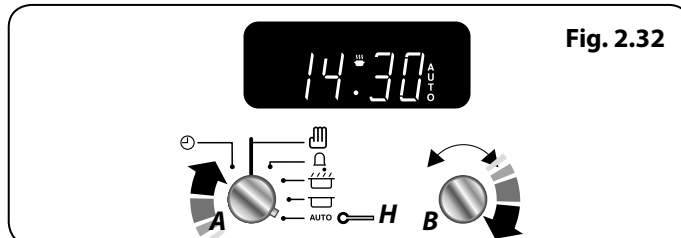

Fig. 2.32
3. Continue to turn the **Adjusting (B)** knob to the amount of time required e.g. 1 minute (**Fig. 2.32**).
5. Turn the **Timer (A)** knob to the **Auto (H)** setting (**Fig. 2.32**). If the display shows the current time and the word 'AUTO' the Multifunction Oven is set to turn on and off.